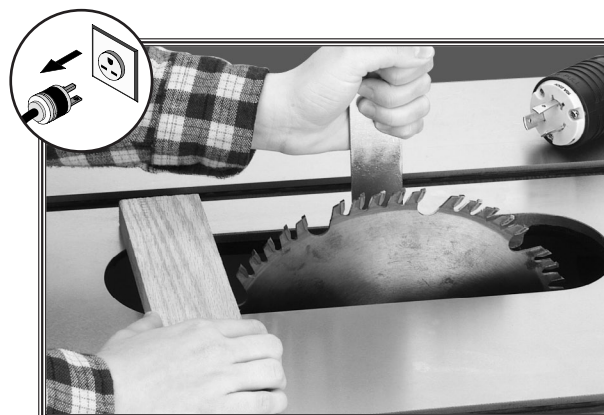

Figure 39. Using a scrap piece of wood to aid in tightening/loosening blade. *Guard removed for clarity.*
2. Block the blade with a piece of scrap wood, as shown in **Figure 39**, and remove the arbor nut and flange.